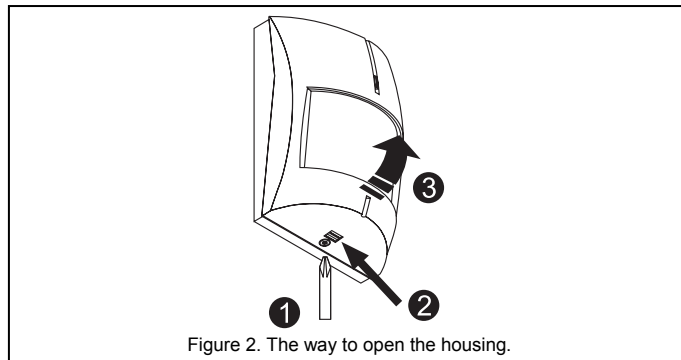

Figure 2. The way to open the housing.
1. Open the housing as shown in Figure 2.